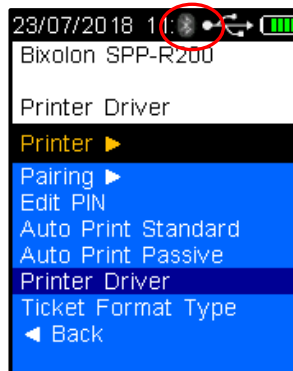

Figure 92 - Bluetooth Icon on Screen
- Once the HH4 device is paired with the printer a Bluetooth icon is visible on the screen at all times (Refer to Figure 92).